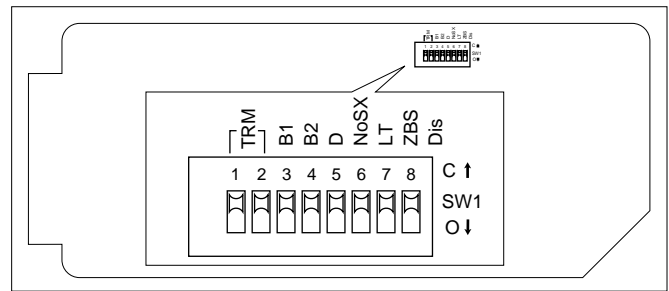

Figure 4. U-BR1TE II SW1
1.2 Issue 2 updates Figure 4 and Table C to reflect new SW1 settings.
See **Figure 4** for SW1 location. **Table C** contains the option settings for for SW1.